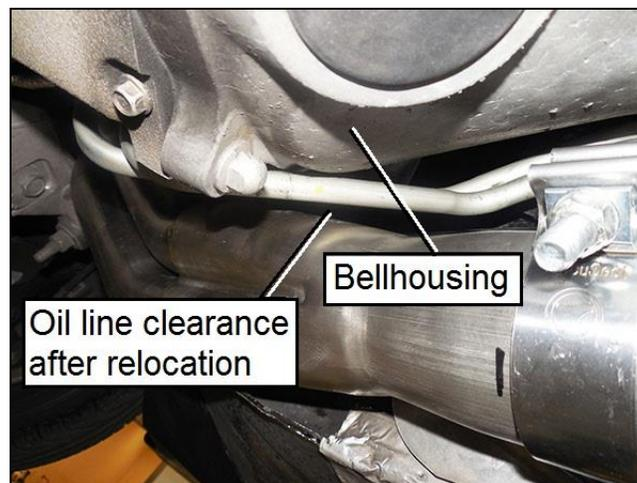

Figure 3
7. CAREFULLY bend the lines so that they rest up against the bellhousing (**Figure 3**).